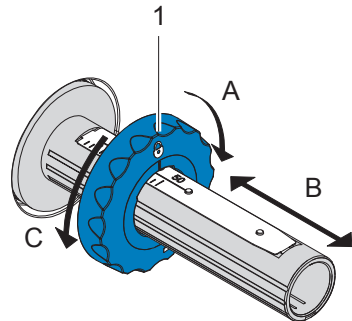

Fig. 11 Edge Guide Adjustment
1. Turn lever (6) counterclockwise to open the printhead.
2. Set guide (1) on both hubs (2, 5) to the correct transfer ribbon width (Fig. 11):
- Hold hub and unlock guide (1) by turning it clockwise in direction A.
3. Load transfer ribbon (4) on the hub (5) up to the edge guide (1) in a way that the ink coating of the ribbon faces the opposite side of the print head after being loaded.